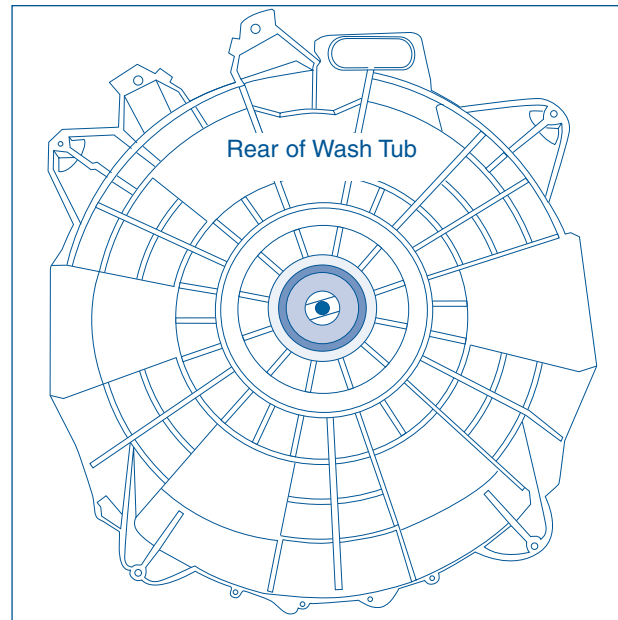

Figure 4-57.
10. Lift the cabinet off the tub. The rear of the wash tub will face upwards. (See Figure 4-57)